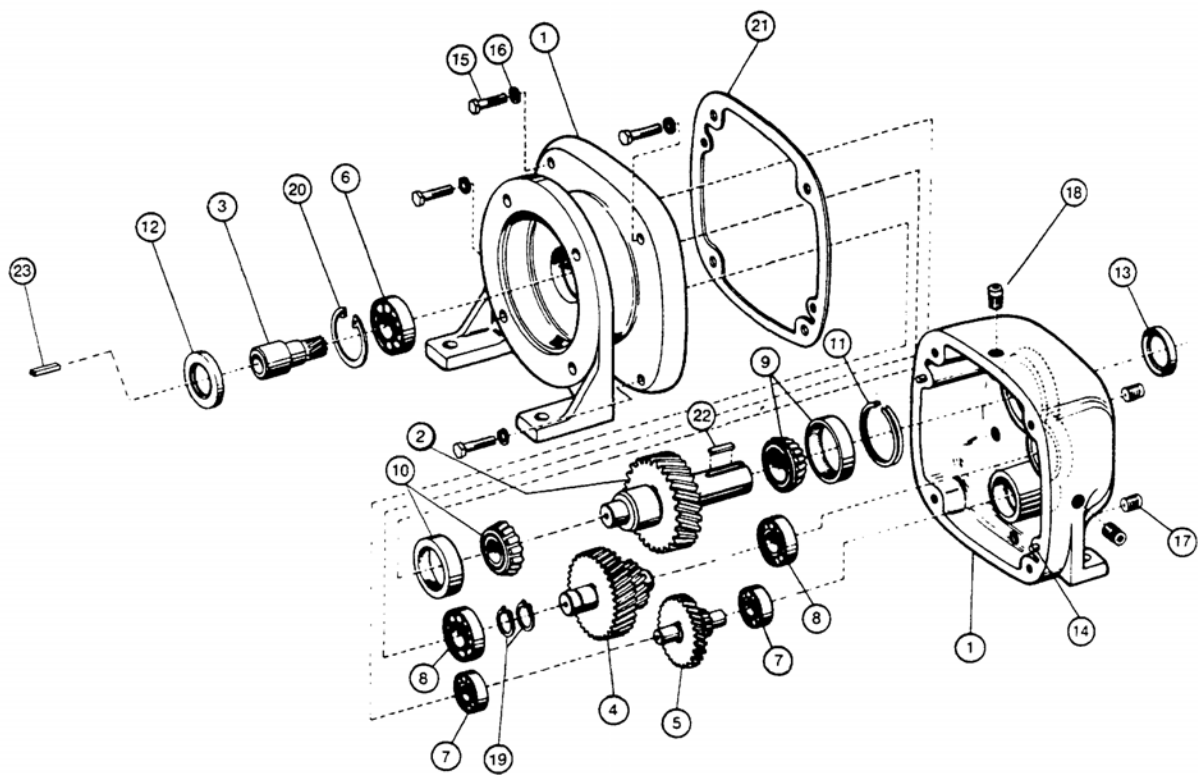

Figure 3. Gear Reducer
If removed, secure the key (15) in the gear reducer keyway with “Loctite Retaining Compound No. 680” or equivalent and slide the eccentric over the gear reducer shaft. Secure it by tightening the socket head capscrew (2, Figure 3).